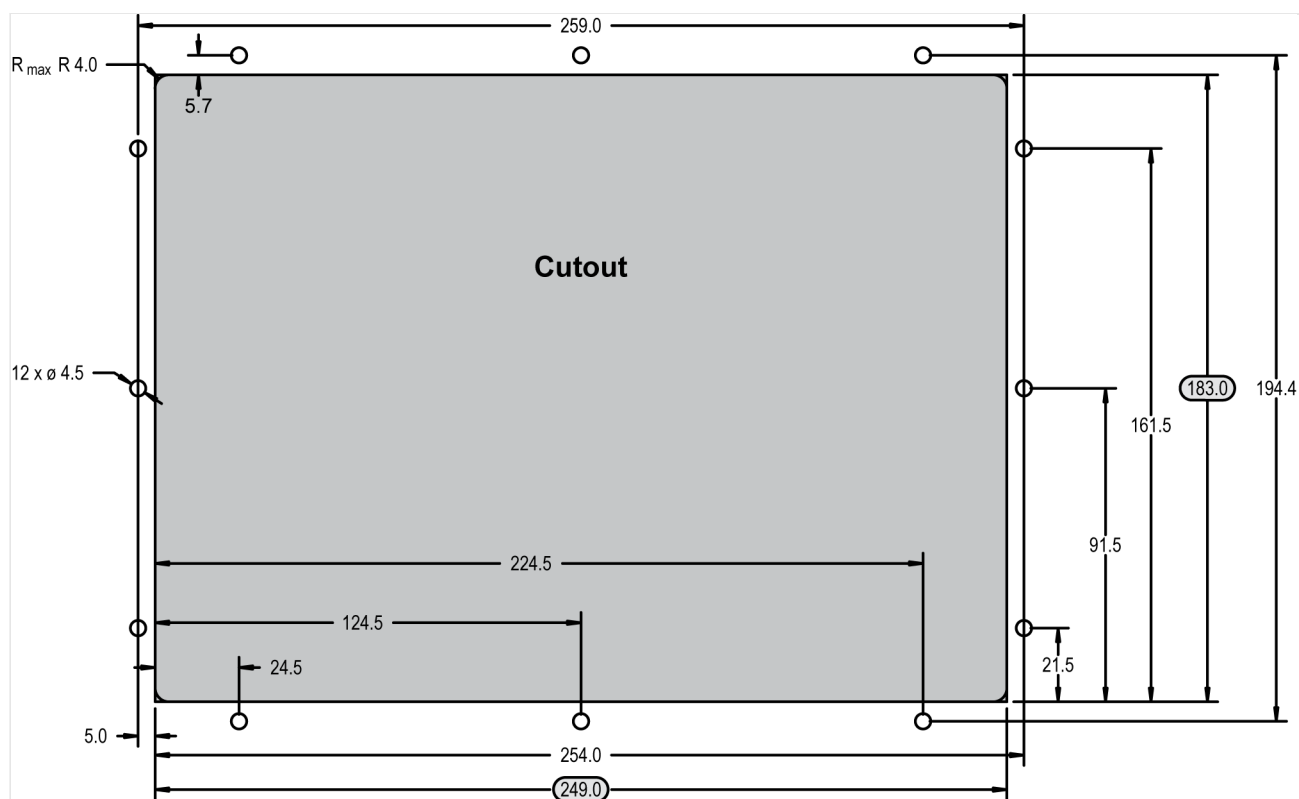

Fig. 17: Plastic housing - drill plan
The housing is equipped with 12 nut inserts (↪ Fig. 17), which must all be tightened properly to achieve the required degree of protection.
1. ▷ Cut out the panel and drill the holes according to the dimensions in  Fig. 17 (dimensions shown in mm).